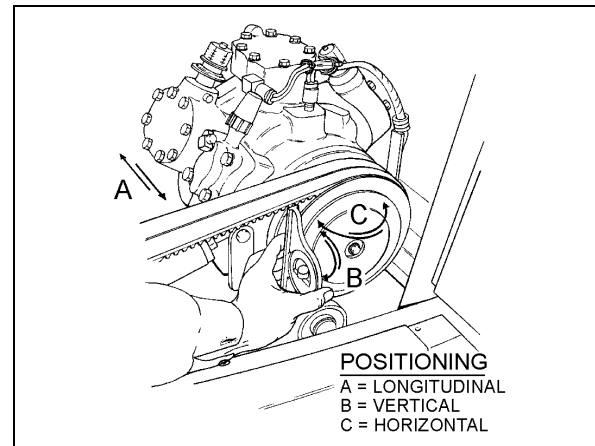

FIGURE 24: COMPRESSOR ALIGNMENT 22072
1. Rest an extremity of a straight edge of approximately 46 inches (117 cm) against the upper part of the outer face of crankshaft pulley, positioning the other end close to the compressor clutch pulley (Figs. 24 & 25).
Rest a short "angle and level indicator" on the outer side face of the crankshaft pulley, adjust the level indicator inclination at 0° and check if the compressor pulley is at same angle (Fig. 24). If it is not the same, shim under the appropriate pillow block in order to obtain the correct angle.